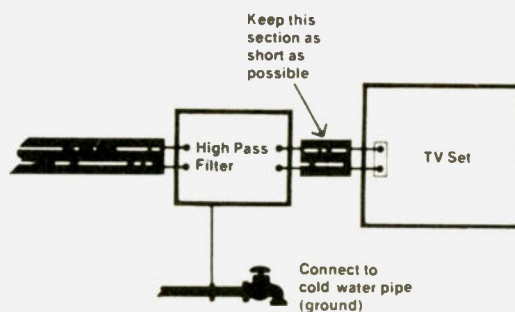

Fig. 3.
wire from the antenna input terminals of the set to the filter (see Fig. 3). For coaxial cable, it will be necessary to
g. The instructions provided with the filter you bought may call for a ground connection. The wire should be as short as possible and connected between the high pass filter ground terminal and a metallic cold water pipe or a ground rod. Use bell wire for this connection (see Fig. 3). Bell wire can be obtained from most variety stores.
c. For twin lead wire, connect a very short (1" to 2") "jumper" wire from the antenna input terminals of the set to the filter (see Fig. 3). For coaxial cable, it will be necessary to obtain a jumper cable that has the proper connectors already installed.
g. The instructions provided with the filter you bought may call for a ground connection. The wire should be as short as possible and connected between the FM band rejection filter ground terminal and a metallic cold water pipe or a ground rod. Use bell wire for this connection (see Fig. 3). Bell wire can be obtained from most variety stores.